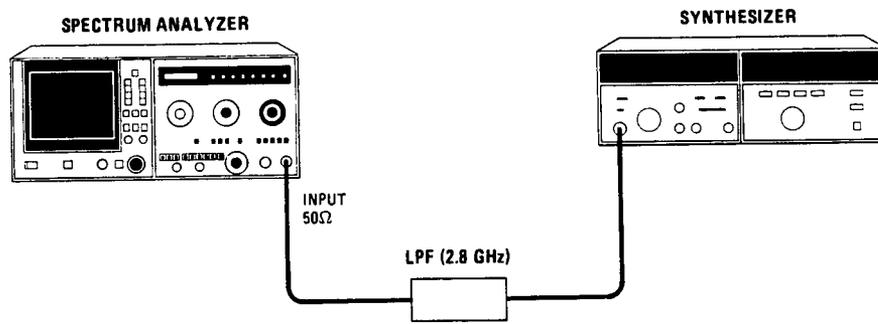

Figure 4-25. Harmonic Distortion Test Setup (1.7 to 18 GHz)
Equipment listed is for two test setups, Figures 4-25 and 4-26.
4. Connect low pass filter in between synthesizer and spectrum analyzer as in Figure 4-25. Set synthesizer frequency to 2000.000 MHz.